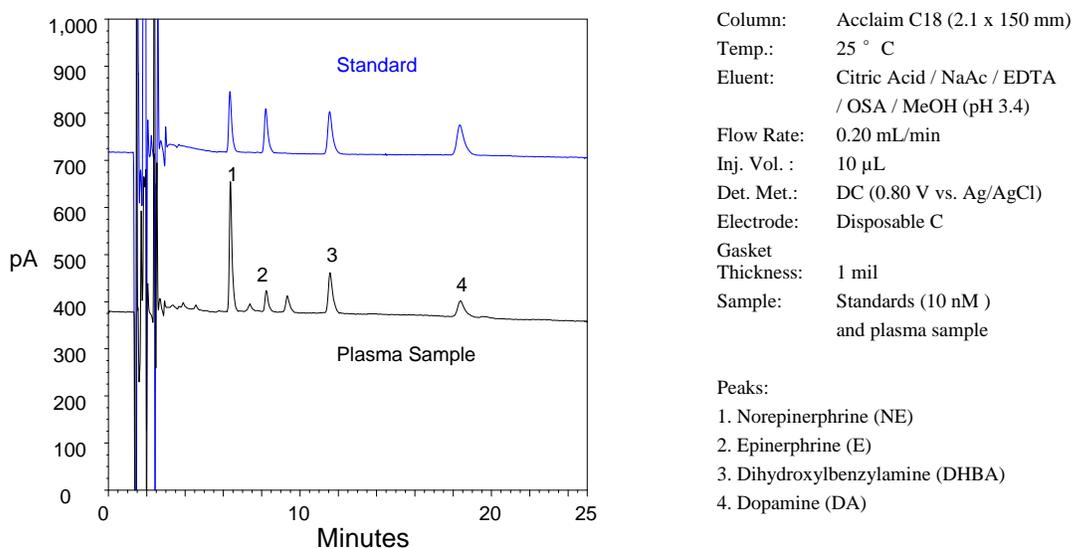

Figure 19 - Separation of Catecholamines: Standard and Human Blood Plasma Sample
10.3.1.2.1. Preparation of 3, 4-Dihydroxybenzylamine (DHBA) Internal Standard (from DHBA hydrobromide, Figure 19).